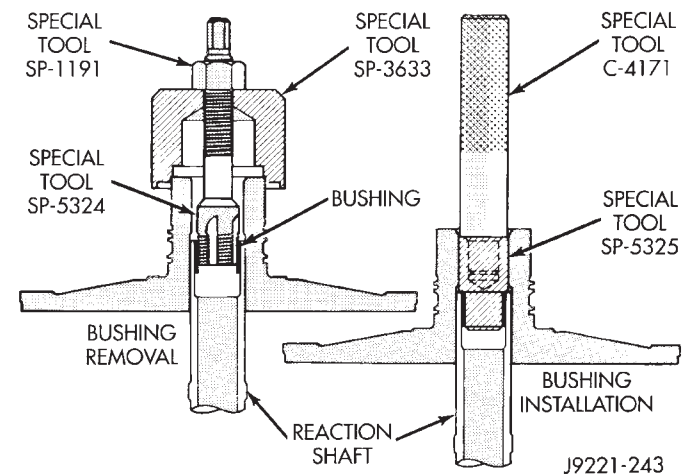

Fig. 56 Replacing Reaction Shaft Support Bushing
(1) Assemble Bushing Remover Tools SP-1191, 3633 and 5324 (Fig. 56). **Do not clamp any part of reaction shaft or support in vise.**
(2) Hold Cup Tool SP-3633 firmly against reaction shaft and thread remover SP-5324 into bushing as far as possible by hand. Then thread remover tool 3-4 additional turns into bushing with a wrench.
(3) Turn remover tool hex nut down against remover cup to pull bushing from shaft. Clean all chips from shaft after bushing removal.
(4) Lightly grip old bushing in vise or with pliers and back remover tool out of bushing.
(5) Assemble Bushing Installer Tools C-4171 and SP-5325 (Fig. 56).
(6) Slide new bushing onto Installer Tool SP-5325.
(7) Position reaction shaft support upright on a clean smooth surface.
(8) Align bushing in bore. Then tap bushing into place until Bushing Installer SP-5325 bottoms.
(9) Clean reaction shaft support thoroughly after installing bushing.